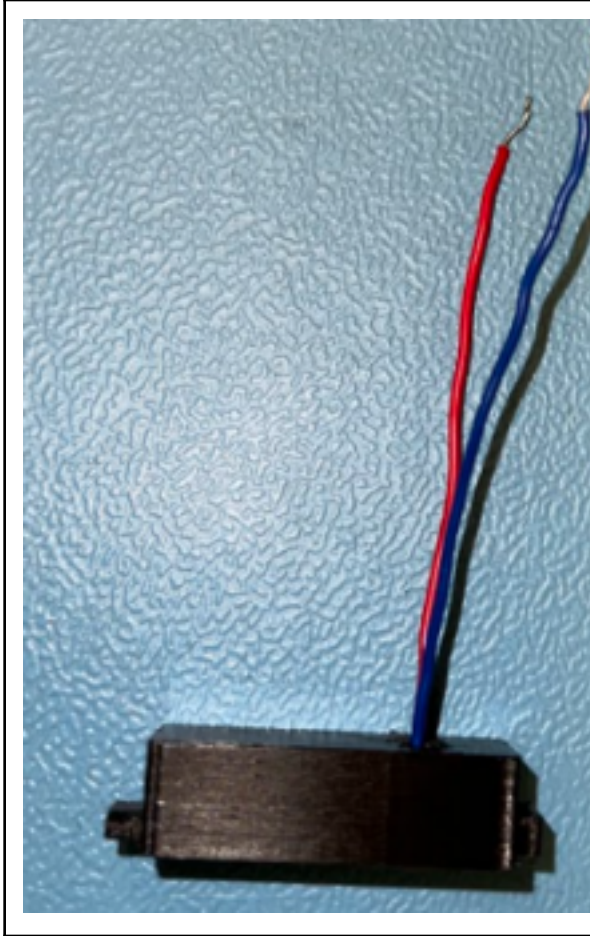

Figure 7 Figure 8
6. Seth added the 3D modeled case to the derailleur, the case alone can be seen in figure 7 and the case attached to the derailleur is in figure 8.